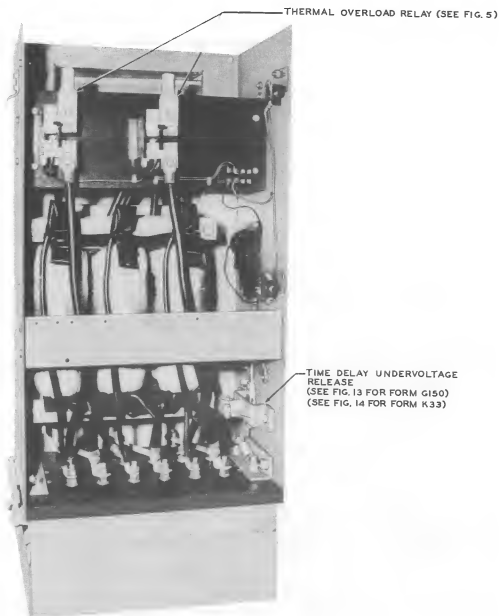

Fig. 2 - KS-5140-01 Manual-type AC Starter
1.02 This section is reissued to change the title, to add new Fig. 2, 3, 4, 5, 13, 14, 15, and 16, to revise the procedure for oil level, to add procedures for thermal overload relays, autotransformers, and undervoltage release coils, and to bring the section generally up to date. Detailed reasons for reissue will be found at the end of the section. Since this reissue covers a general revision, the arrows ordinarily used to indicate changes have been omitted.
3.21 To replace the autotransformer on the form K33 and G150 starters shown in Fig. 2, be sure the ac service is disconnected ahead of the starter. Remove the box cover. After noting their positions, disconnect the autotransformer leads from the contactor. Remove the screws, nuts, and lockwashers that fasten the transformer clamps to the box. Remove the clamps. As these autotransformers are heavy, it may be necessary to use suitable tackle to lift the autotransformer out of the box. Replace with a new transformer and reassemble in the reverse order.
2. To add new Fig. 2, 3, and 4 for the KS-51A-01 starters.